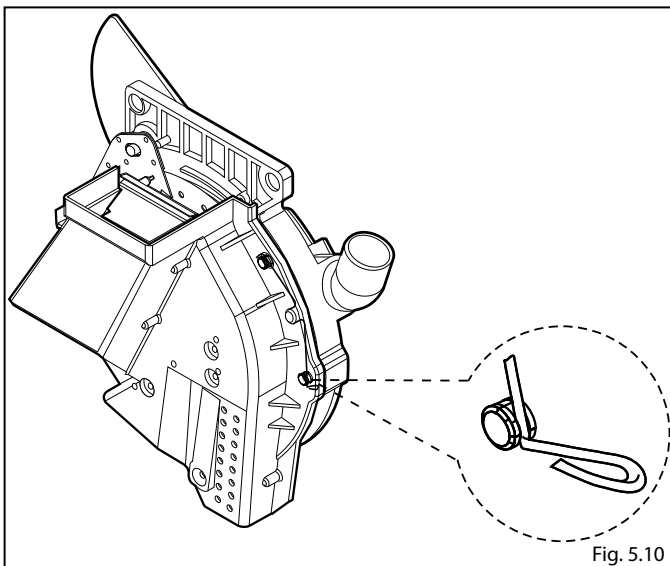

Fig. 5.10
- Close the distributor by inserting the springs on the lid in the relevant slots of the bolts. (Fig.5.10).